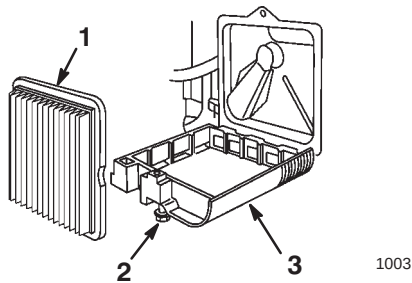

Figure 13
3. Loosen the screw that secures the air filter cover to the engine (Fig. 13).
5. Remove and discard the old paper air filter (Fig. 13).